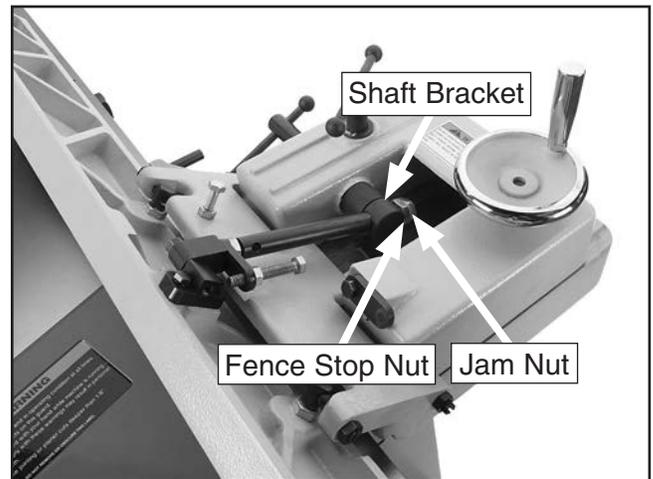

Figure 51. 45° inward fence stop jam nut.
4. Loosen the jam nut shown in **Figure 51**.